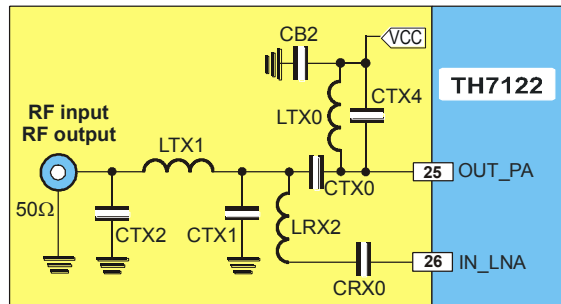

Fig. 19: Combining network schematic
9.1 Board Component List (Fig. 19)